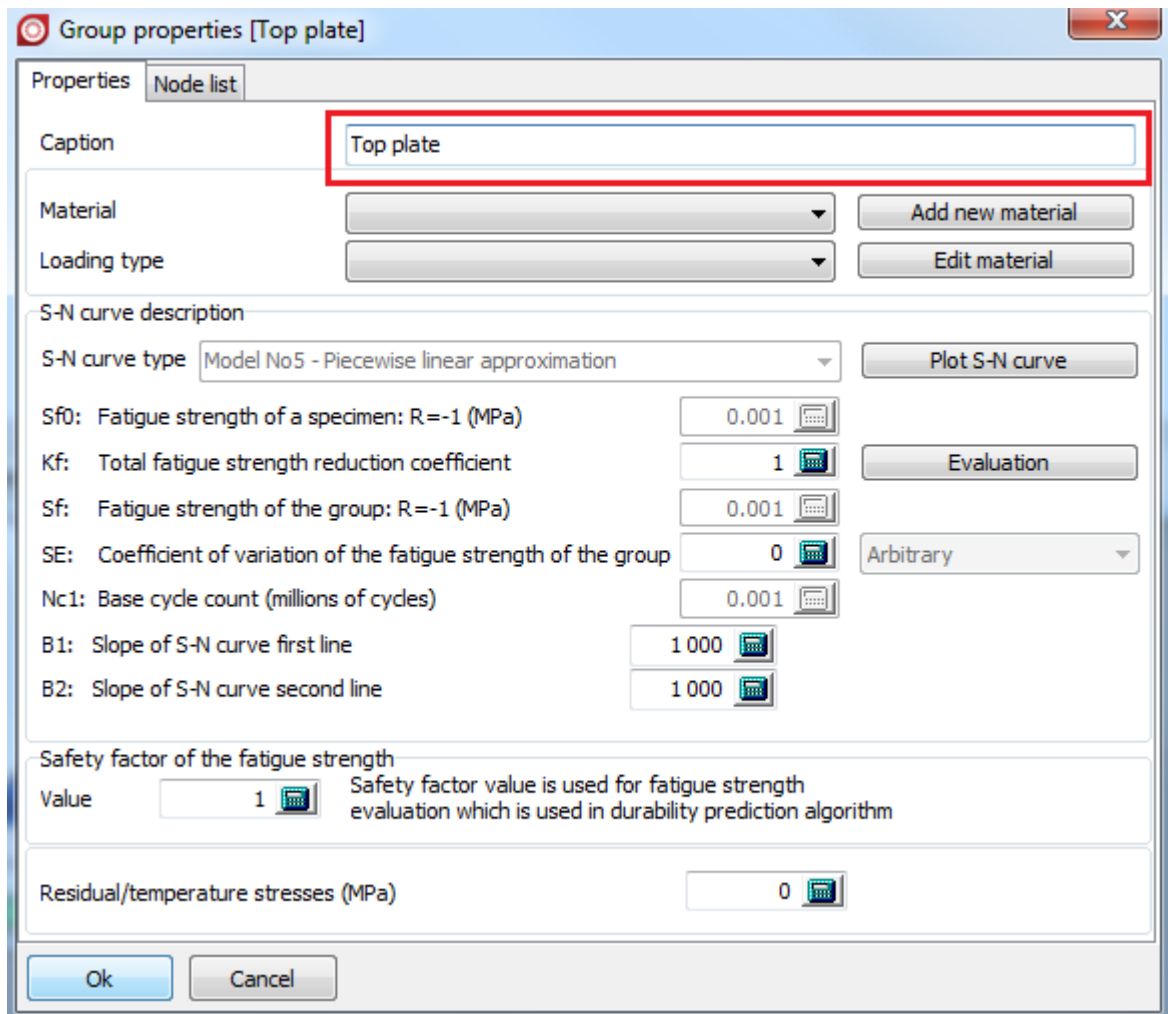

Figure 2.28. Control area properties window
2. Add a new control area. The control area properties description form will be appeared, see Figure 2.28.
- Come back to the **Properties** tab and click the **Add new material** button (see Figure 2.28) to define the following material properties: